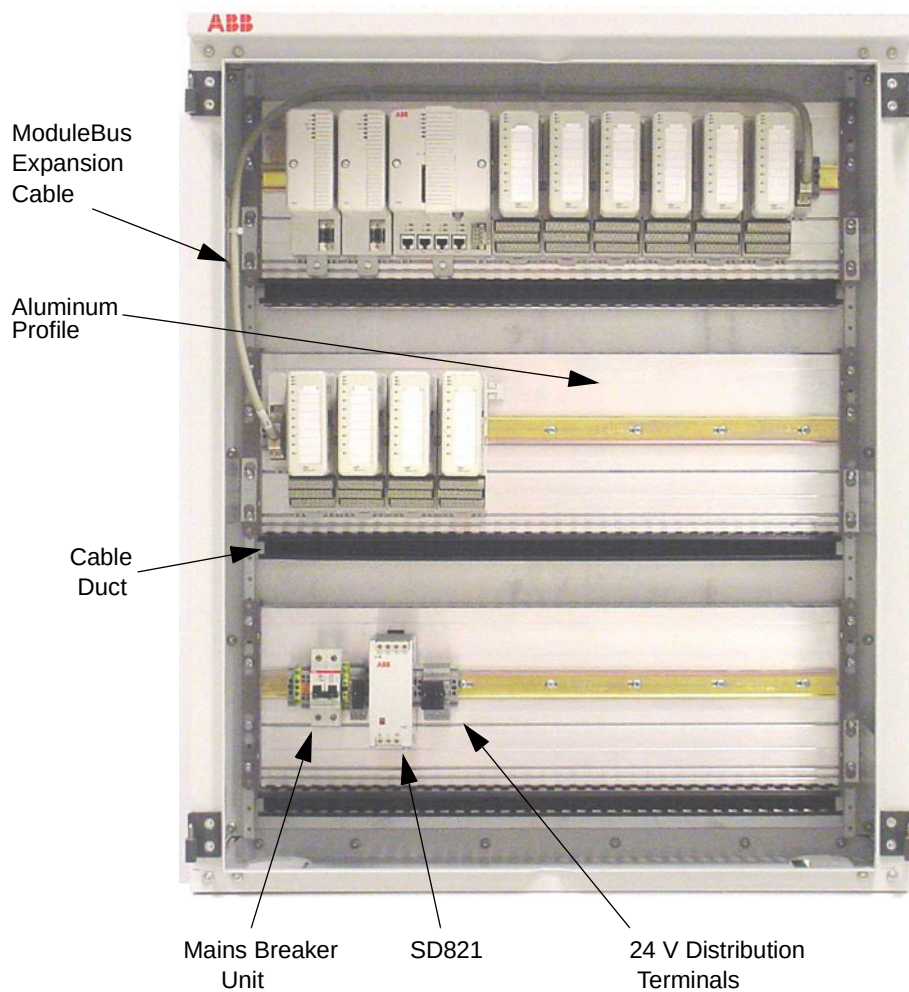

Figure 23. Wall Cabinet – Single Power Supply Arrangement
- Figure 23 on page 87: Wall Cabinet – Single Power Supply Arrangement